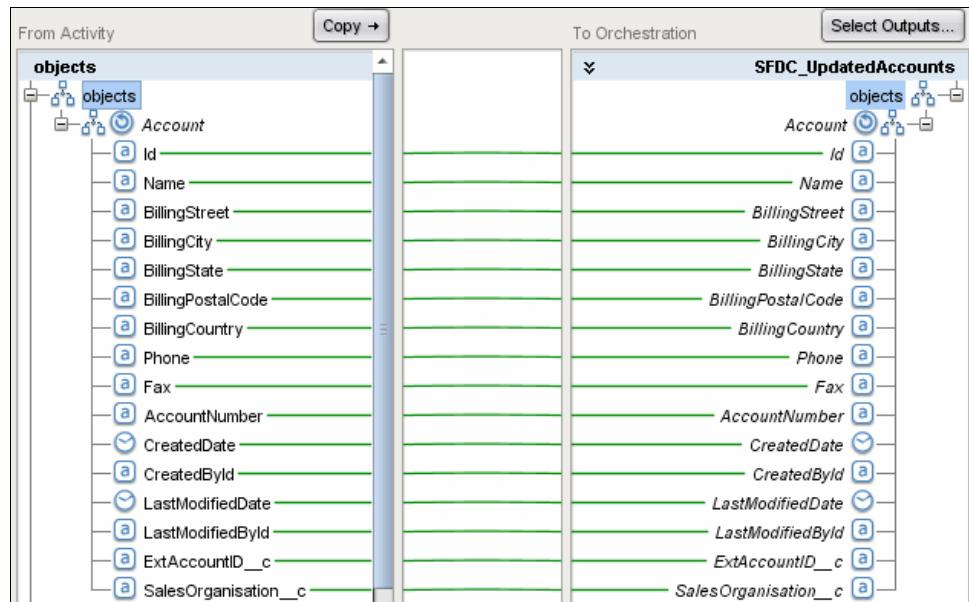

Figure 10-113 Query map outputs
- b. Create a link from the objects element of the objects variable to the objects element of the SFDC_UpdatedAccounts variable. This mapping links all the Salesforce.com data fields as shown in Figure 10-113 on page 433.